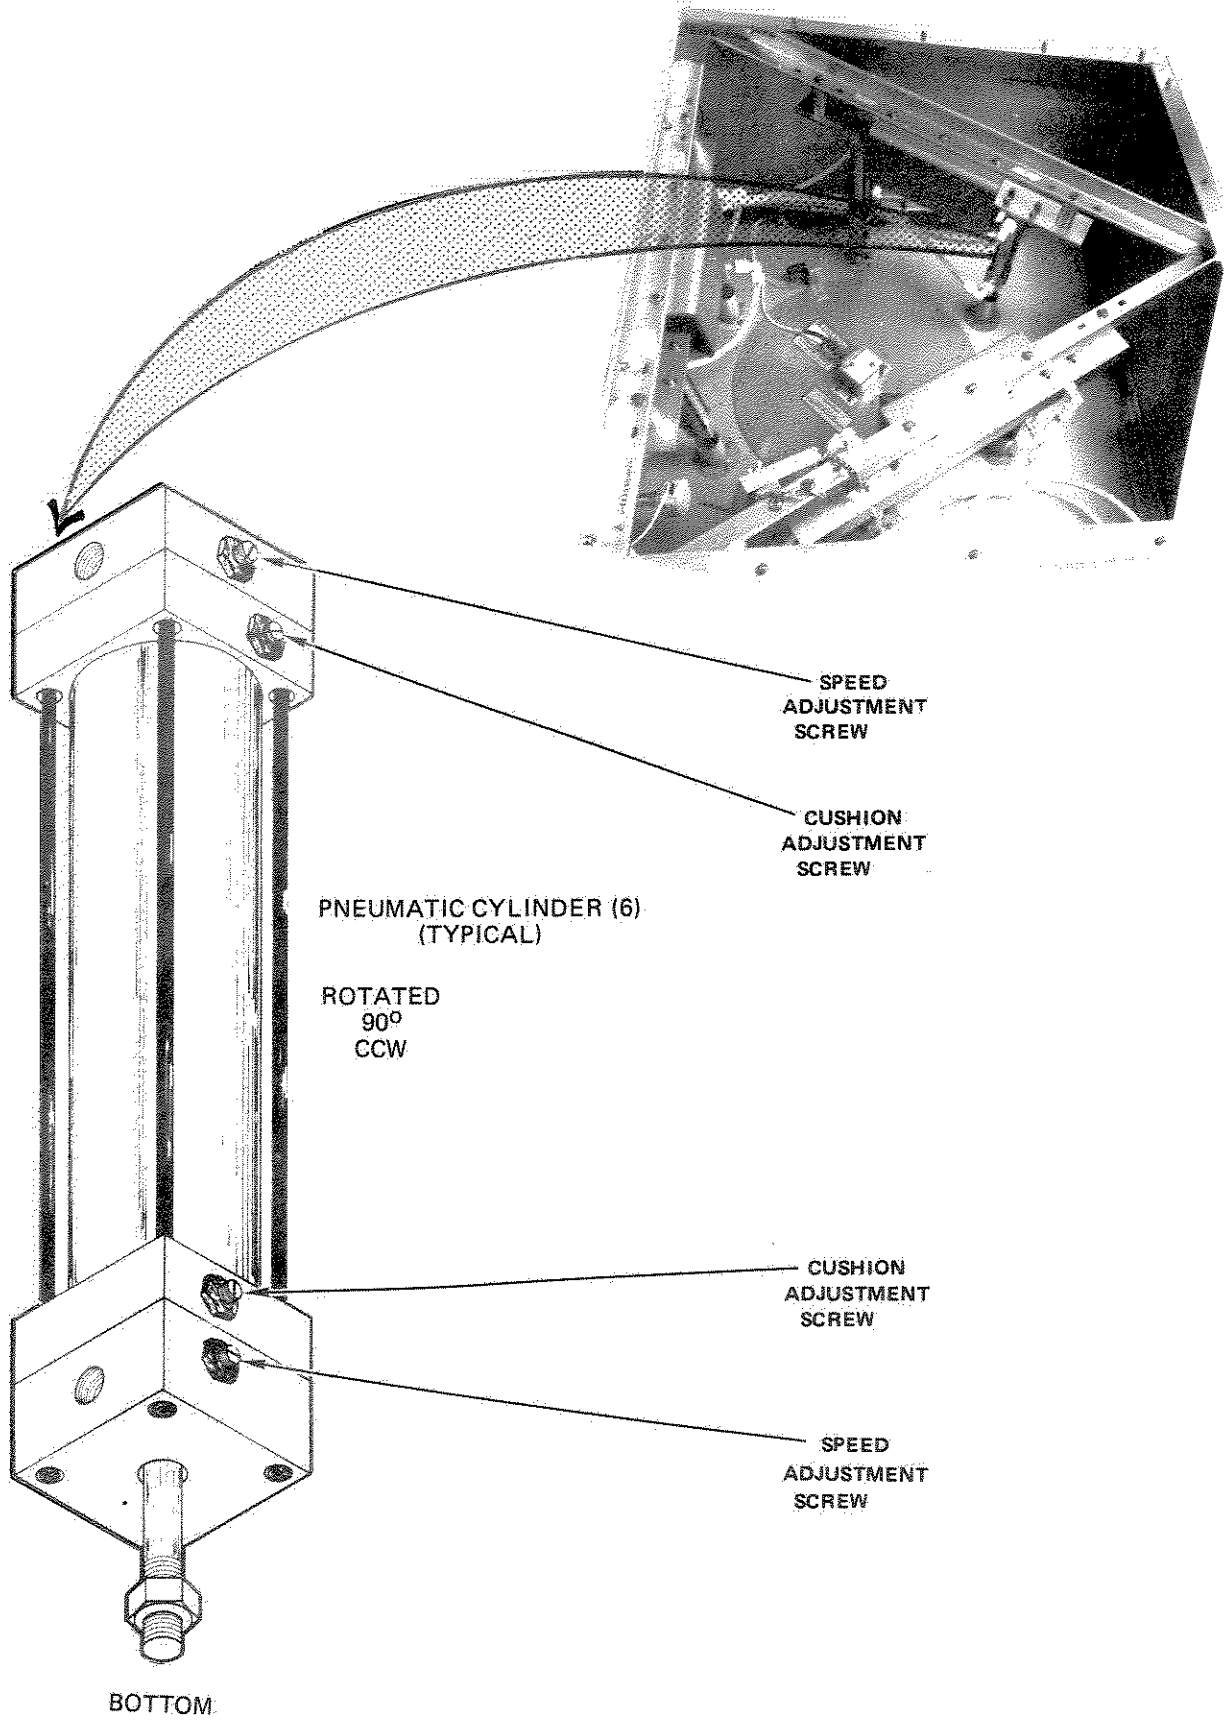

Figure 6-108. PA Band Switch Pneumatic Cylinders
6-6.3.9.1 Bands A, B, C, and D Adjustment. To adjust band switches for Bands A, B, C, or D, refer to Figures 6-108 through 6-110 and perform the following.
5. To adjust Bands A, B, C, and D pneumatic cylinders (Figure 6-108), turn upper speed adjustment screw cw until it bottoms out, then ccw one full turn. Turn lower speed adjustment screw cw until it bottoms out, then ccw 5/8-turn. Turn both upper and lower cushion adjustment screws cw until they bottom out, then ccw one full turn.
30. Make slight screwdriver adjustment to appropriate screw, then repeat step 29. Refer to Figure 6-108 and the following guidelines for location and effect.
To adjust band switches for Bands E or F, refer to Figures 6-108, 6-109, 6-111, and 6-113. Perform the following.
30. Refer to Figure 6-108 and the following list for adjustment screw location and effect. Make slight adjustment, then repeat step 29.